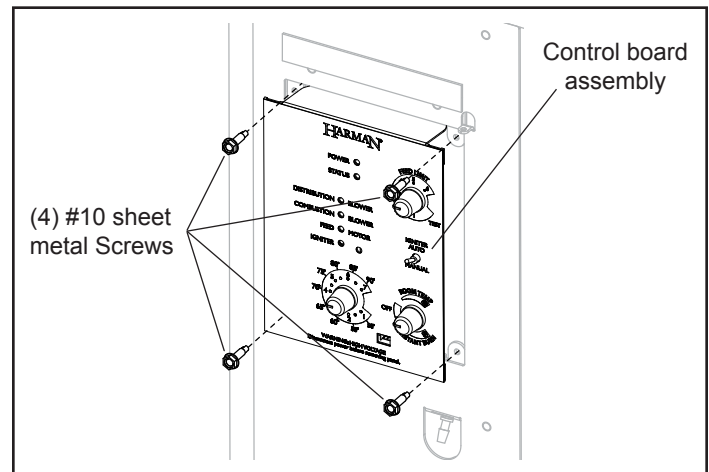

Figure 5.6 - Install control board assembly.
Using (4) #10 sheet metal screws located in the hardware pack, install the control door hinge and control board assembly to the left side wing surround, Figure 5.6.